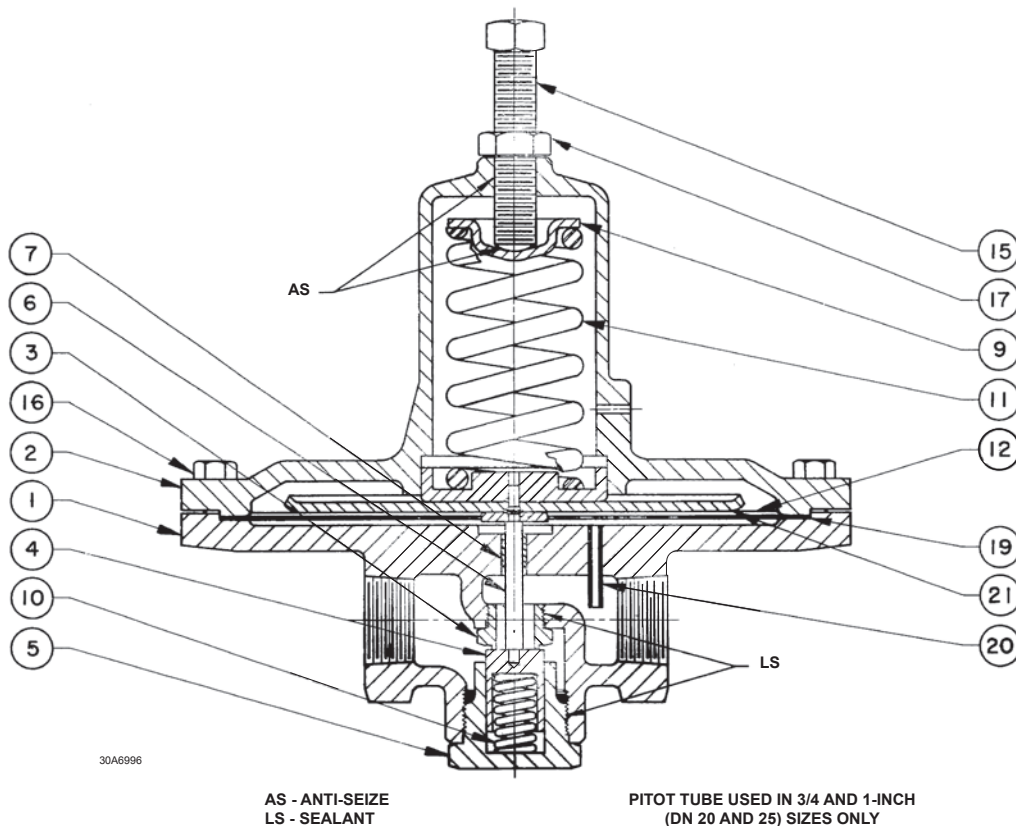

Figure 2. Type 95L, 1/4 to 1-Inch (DN 25) Sizes Stainless Steel Trim
The factory setting of the regulator can be varied within the pressure range stamped on the nameplate. To change the outlet pressure, loosen the locknut (key 17, Figure 2, 3, or 4) and turn the adjusting screw (key 15, Figure 2, 3, or 4) clockwise to increase outlet pressure, or counterclockwise to decrease it. Monitor the outlet pressure with a test gauge during the adjustment. Tighten the locknut to maintain the desired setting.
Due to normal wear that may occur, parts must be periodically inspected and replaced if necessary. The frequency of inspection depends on the severity of service conditions. This section includes instructions for disassembly and replacement of parts. All key numbers refer to Figures 2, 3, and 4.